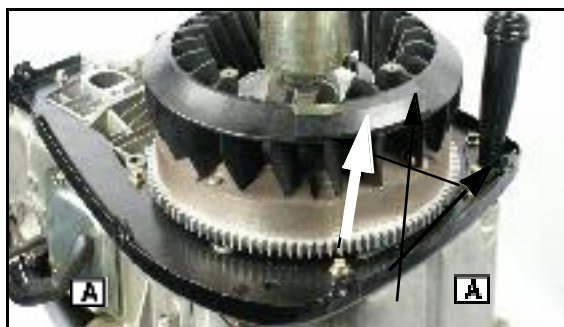

Fig. 19
1. Remove the mounting bolts shown in ([A] Fig. 19).